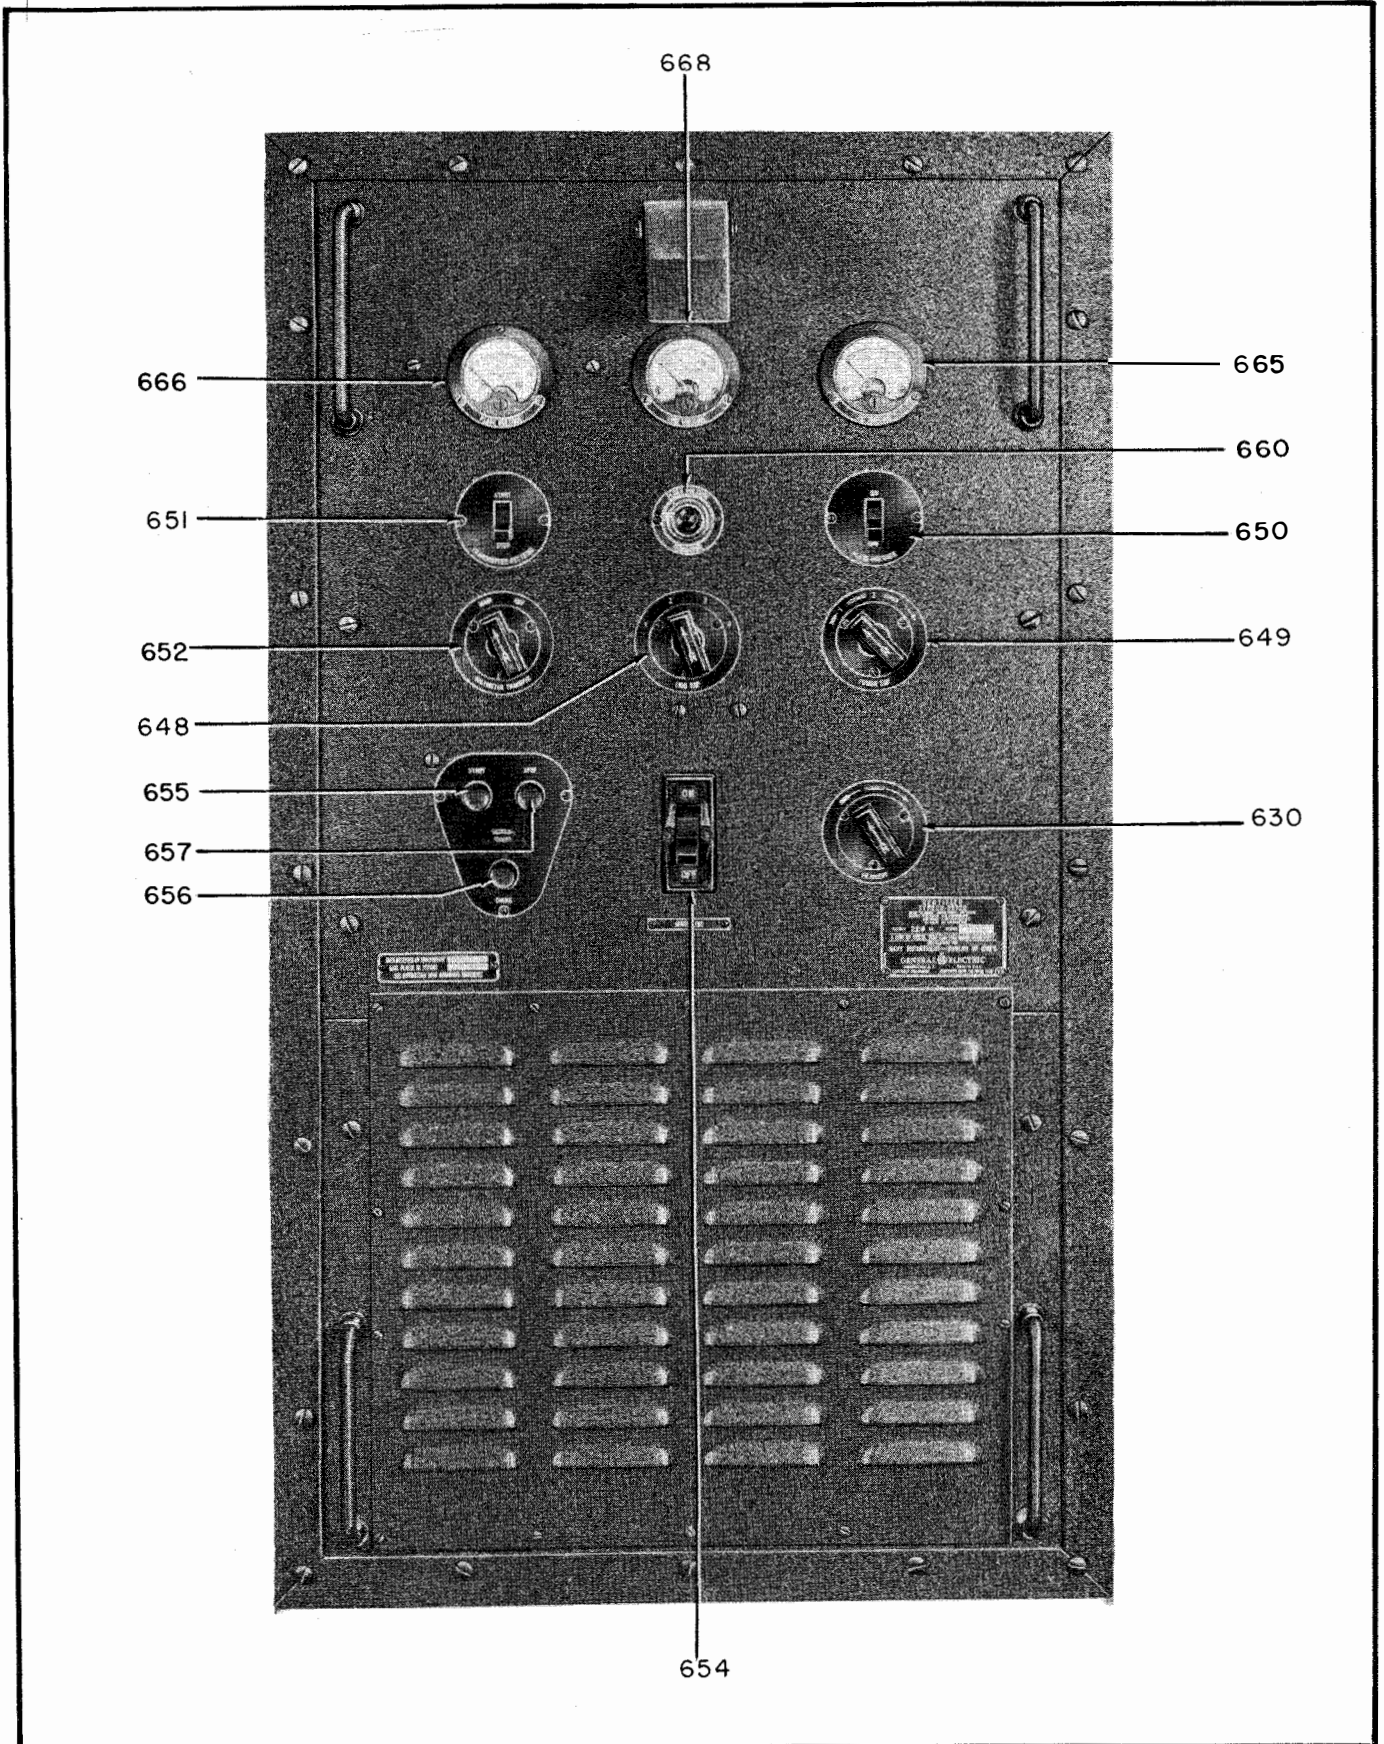

Figure 1-6. Rectifier Navy Type CG-20122, Front View
(1) FUNCTION.—The rectifier receives the main line power supply and meters the d-c voltages through fuses to the h-f and i-f radio transmitter circuits.
(2) CONSTRUCTION.—The construction of the rectifier is exactly the same as that for the h-f radio transmitter except for the depth of the equipment. Refer to this section, paragraph 3b(2).
(3) FRONT PANEL CONTROLS. (See figure 1-6.)—The front panel controls are arranged in four horizontal rows. Starting from the top left part of the equipment these components are located as follows: